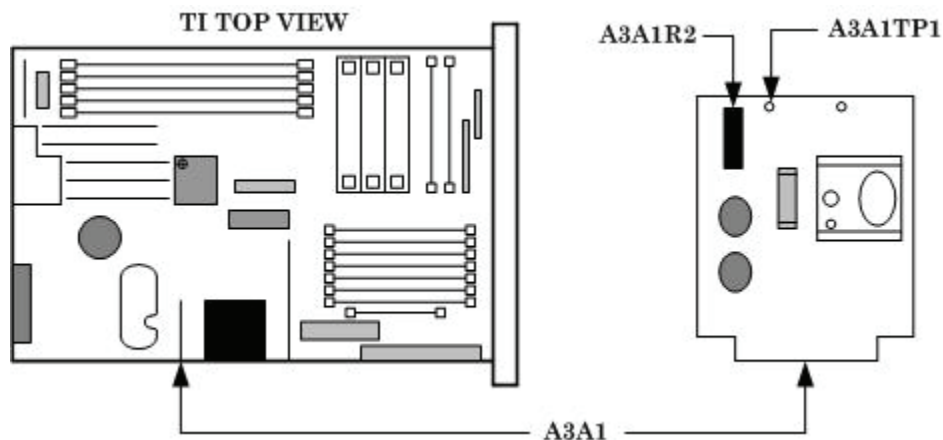

Figure 12. A3A1 card.
(1) Connect digital multimeter to A3A1TP1 and chassis (fig. 12). If digital multimeter does not indicate between  $+21.98$  and  $+22.02$  V dc, perform **b** (1) below.
(1) Adjust A3A1R2 (fig. 12) for an indication of +22.00 V dc on digital multimeter (R).